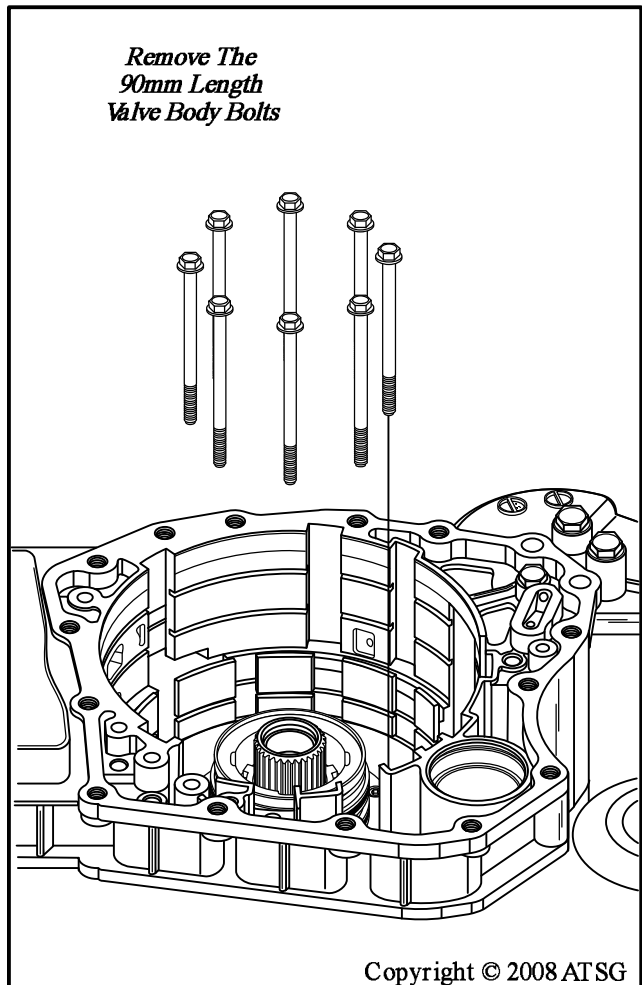

Figure 77
26. Remove the eight, 90mm length, valve body bolts, as shown in Figure 77.